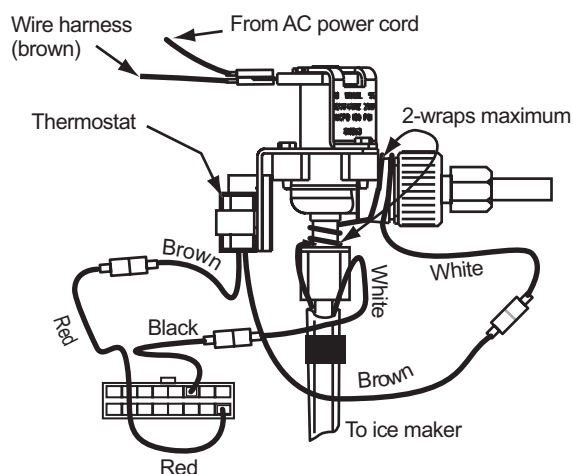

Figure 48. Solenoid water valve
The water valve, see Figure 48, is solenoid operated. This valve is located on the back of the cabinet on the bottom of the refrigerator. The solenoid is supplied 120 Vac through the ice maker wire harness. Spring pressure keeps the valve shut when the solenoid is not energized.
3. Carefully wrap one white heater wire around the valve as shown in Figure 48. *Do not exceed two wraps at each point.*